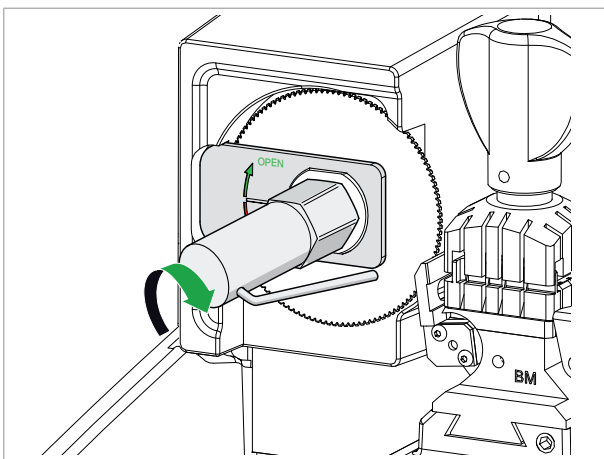

Fig. 149
- 4) Use the pipe wrench (provided) to UNSCREW THE NUT (F2) CLOCKWISE (Fig. 149). **ATTENTION: THE THREAD GOES LEFT.**